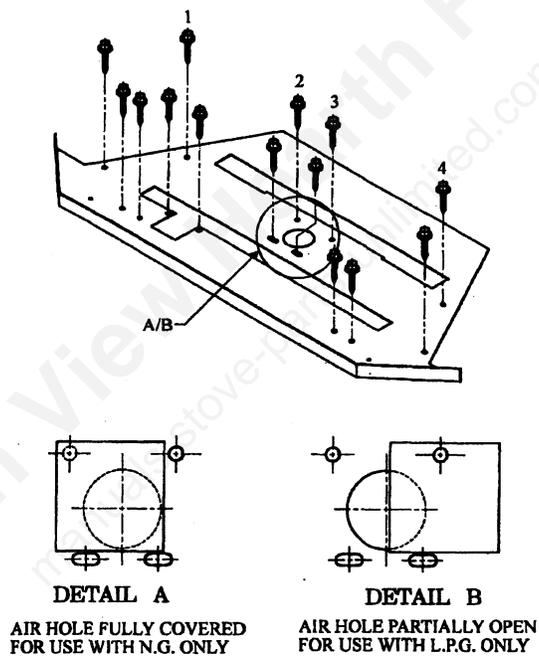

Figure 22 Firebox Bottom Removal
5. Note the position of the cover plate, and unscrew the remaining ten screws from the firebox bottom (see Figure 22).